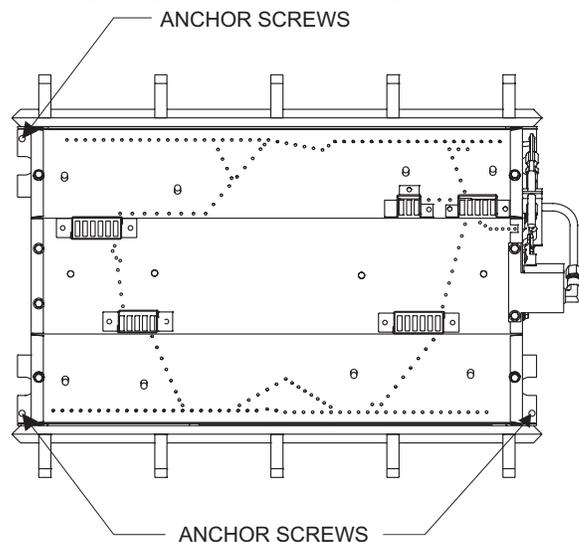

Figure 10
Assembly Procedure: (Figure 10)
3. Anchor the grate to the fireplace/firebox floor using the screws provided. Refer to Figure 10.